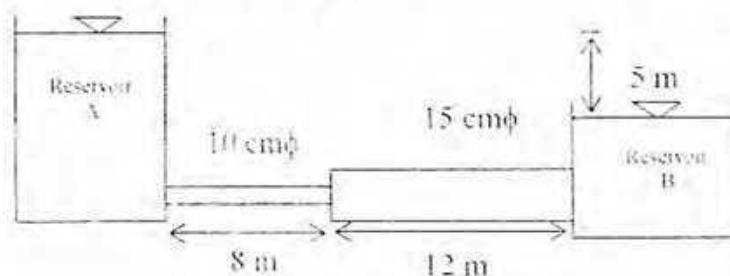

Figure 8
- c. Two reservoirs A & B shown in Figure 8 are connected by a pipe line consisting of two pipes, one of 10 cm diameter and length 8 m and the other of diameter 15 cm and 12 m length. If the difference of water levels in the two reservoirs is 5 m, calculate the discharge through the pipe. Take  $f=0.04$ . 10